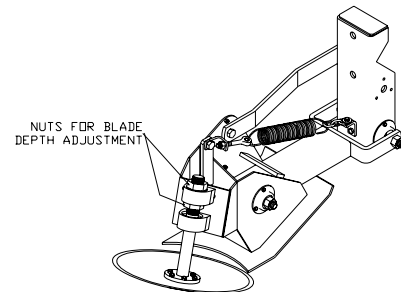

Figure 23 - Mechanical Disc Scalper Depth Cutting Adjustment
1. Adjust the spring tension with the nuts on the eyebolt (Figure 23).
2. The depth of cut is adjusted by loosening the set screws on the lower bearing and moving the two jam nuts on the scalper shaft, sliding the shaft up or down to attain the desired depth of cut, and then re-tightening the jam nuts and set screws. The distance from the bottom of the shoe to the lowest point of the disc is generally between 3/4 to 1.0 inch. See Figure 23.